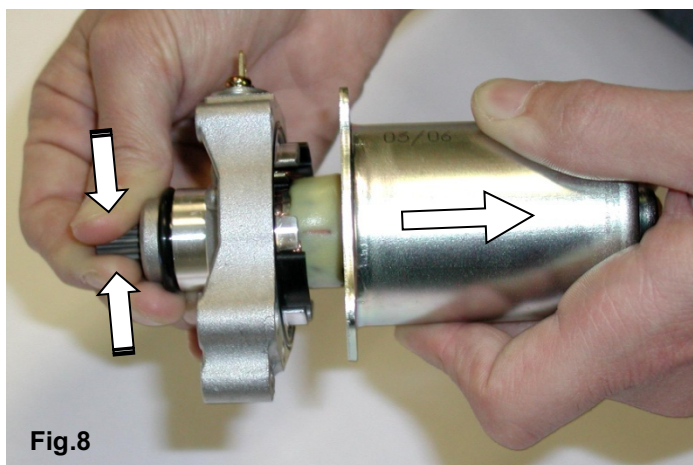

Fig.8
- REMOVE THE DRUM FROM THE STARTER MOTOR KEEPING THE ROTOR IN ITS SEAT (BE SURE TO HOLD THE ROTOR ON ITS TOOTHED SIDE TO PREVENT THE BRUSHES FROM FALLING OUT FROM THEIR SEAT (see Fig . 8)